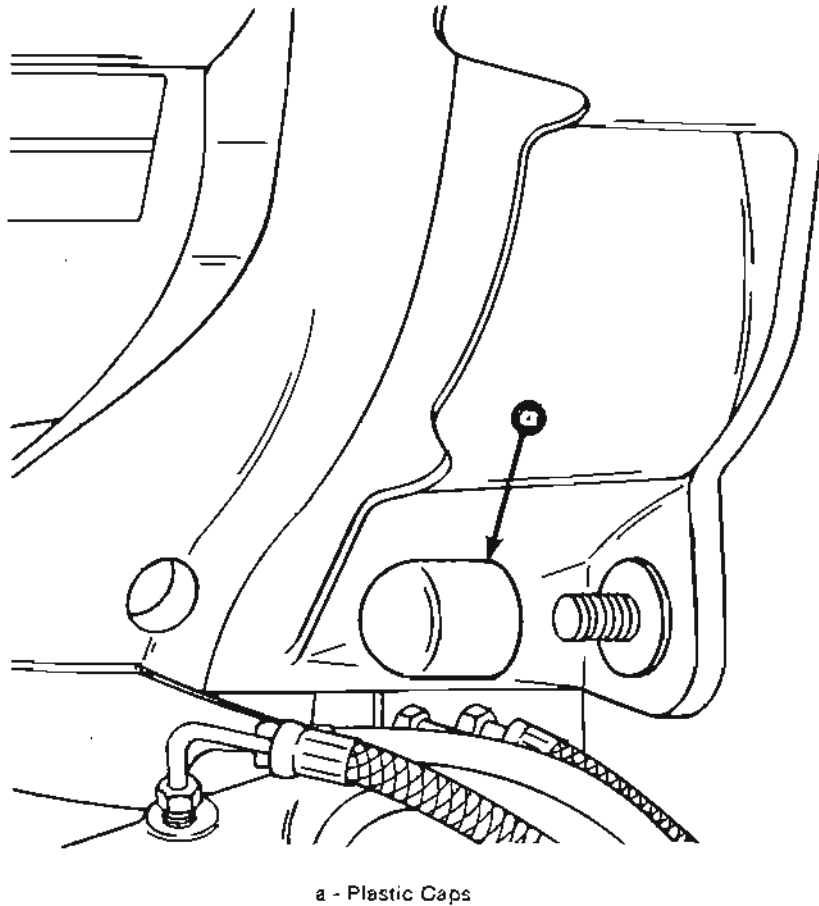

Figure 2. Gimbal Housing Plastic Caps
- Do not replace plastic caps (Figure 2) with zinc anode heads, as this will affect the operation of the MerCathode System.